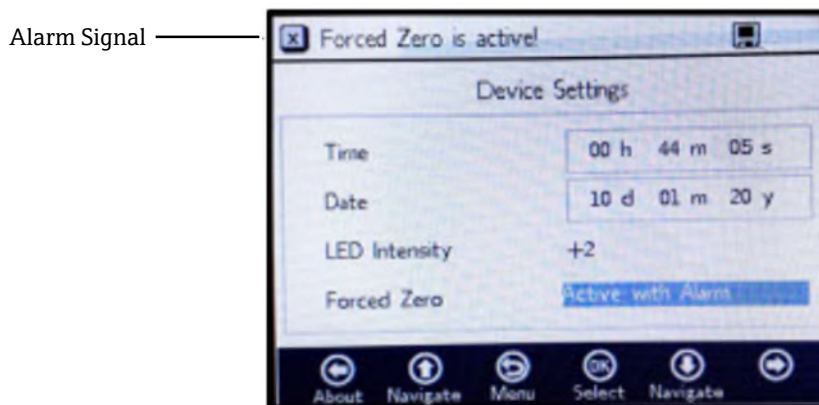

Figure 40. Forced Zero alarm signal
- **Active alarm:** In this mode, a negative value will be seen as 0% [ppm] O₂. An alarm signal “Forced Zero is active” is displayed at the top of the window. Refer to Figure 40. After rebooting the device, the default mode “passive” is reactivated.